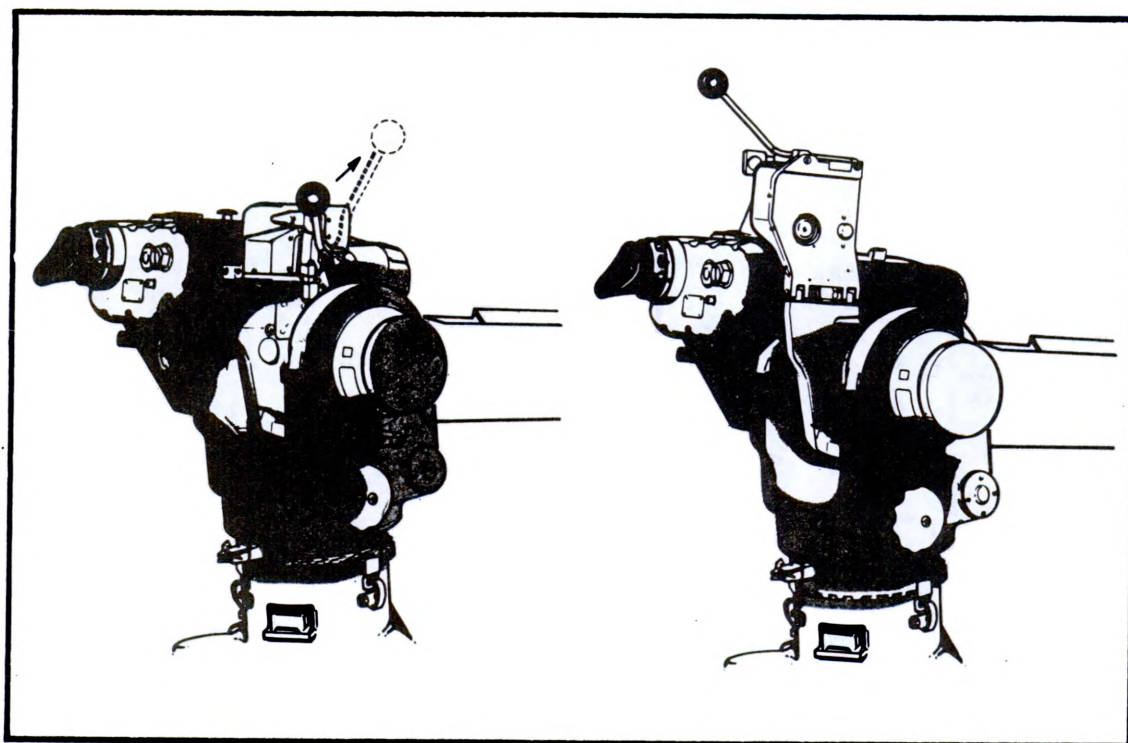

Figure 2. Raising the bridge clamp.
b. Raise the bridge clamp and insure that the trigger protective cover is down (fig. 2).